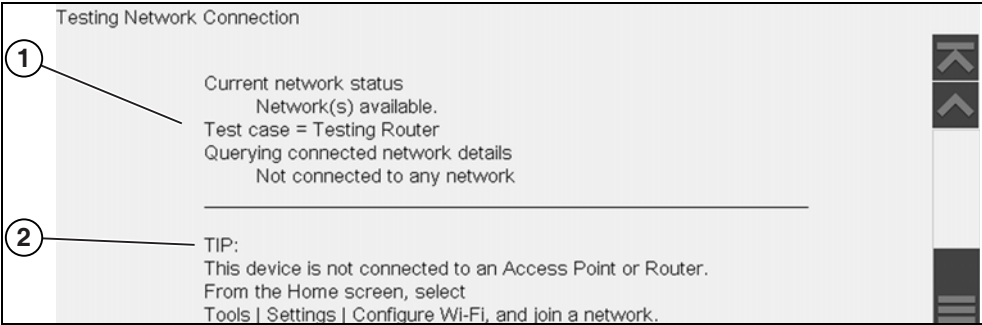

Figure 11-5 View Summary
4. If a connection issue(s) is present, select **View Summary** to review the results. The summary information is helpful if you are experiencing difficulties with your connection (Figure 11-5). Scroll through the summary information to review the test results for each system and Tip messages for the current connection issue. See *Connection Tests - Troubleshooting* chart in “Wi-Fi Troubleshooting and Status Messages” on page 71 for additional information.